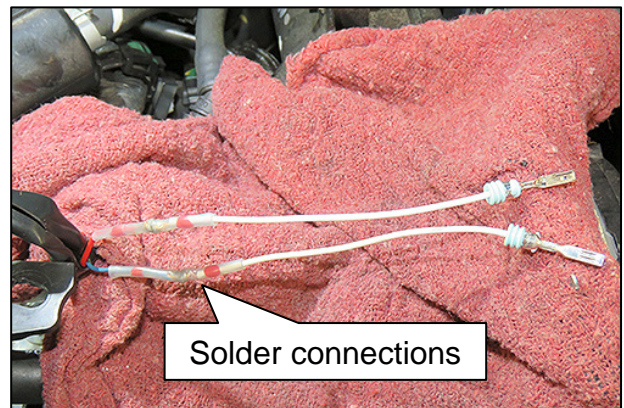

Figure 15
- Figure 15 is shown with all solder connections completed.